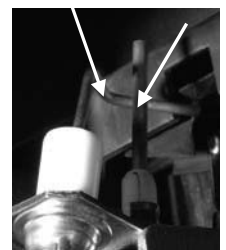

Figure 3
4. Gently bend the ignitor spark probe until the gap distance is approximately 1/4" inch between the two points as shown in Figure 3.